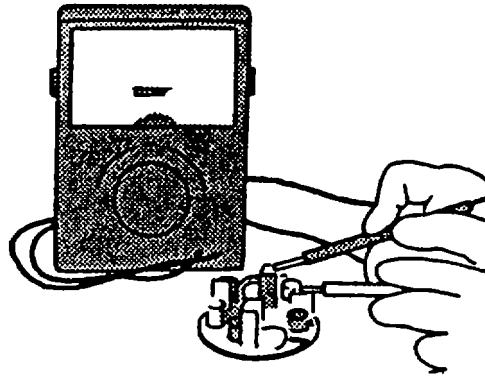

FIGURE 3-36. Checking Brush Holder
- d. Set multimeter for ohms and touch one probe to positive brush holder plate and other one to the holder plate, refer to FIGURE 3-36. There should be no continuity. If there is continuity, replace brush holder.